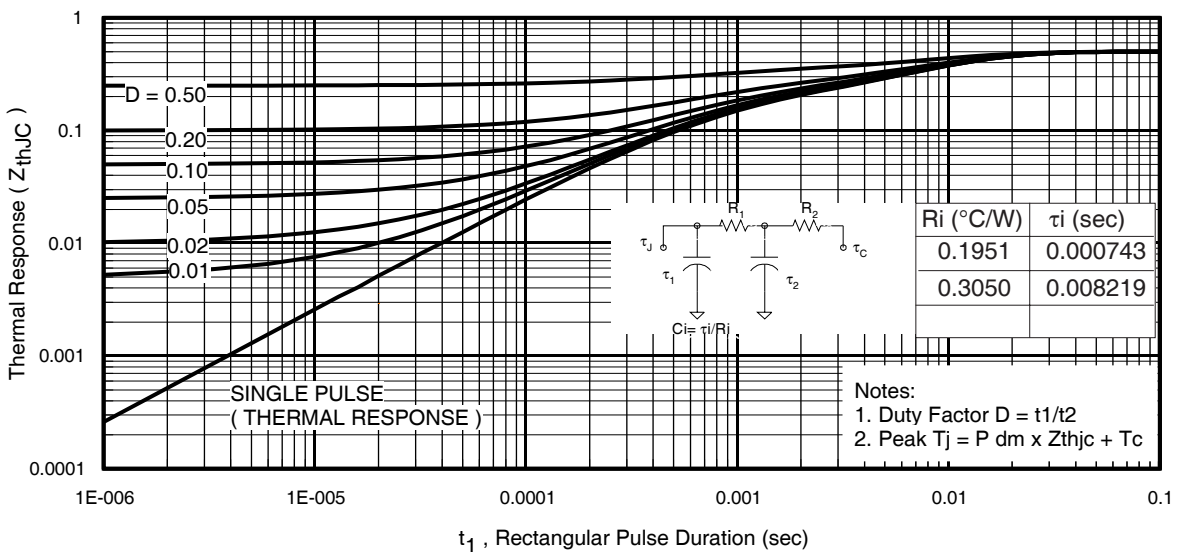
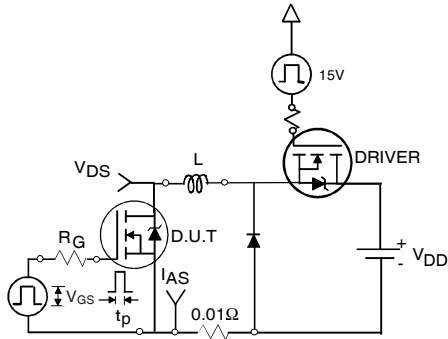

Fig 11. Maximum Effective Transient Thermal Impedance, Junction-to-Case
Fig 12a. Unclamped Inductive Test Circuit
- ① Repetitive rating; pulse width limited by max. junction temperature. (See fig. 11).
- ② Limited by T_{Jmax} , starting $T_J = 25^\circ\text{C}$, $L=0.049mH, R_G = 25\Omega, I_{AS} = 160A, V_{GS} = 10V$. Part not recommended for use above this value.
- ③ Pulse width $\leq 1.0ms$; duty cycle $\leq 2\%$.
- ④ $C_{oss\ eff.}$ is a fixed capacitance that gives the same charging time as C_{oss} while V_{DS} is rising from 0 to 80% V_{DSS} .
- ⑤ Limited by T_{Jmax} , see Fig.12a, 12b, 15, 16 for typical repetitive avalanche performance.
- ⑥ This value determined from sample failure population. 100% tested to this value in production.
- ⑦ This is applied to D²Pak, when mounted on 1" square PCB (FR-4 or G-10 Material). For recommended footprint and soldering techniques refer to application note #AN-994.
- ⑧ R_{θ} is measured at T_J of approximately 90°C .
3. Equation below based on circuit and waveforms shown in Figures 12a, 12b.
$Z_{thJC}(D, t_{av})$ = Transient thermal resistance, see figure 11)